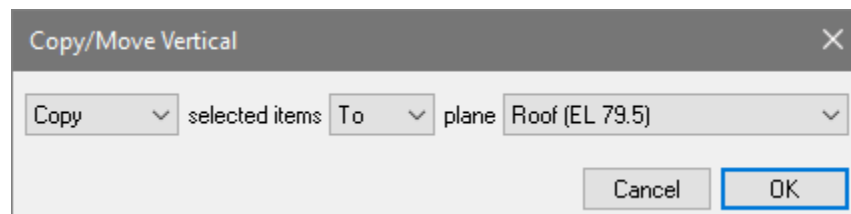

Figure 10-43
- Go to *Modify* → *Copy/Move* and click on the *Vertical*  icon. This will open up the *Copy - Move* window as shown in **FIGURE 10-43**.